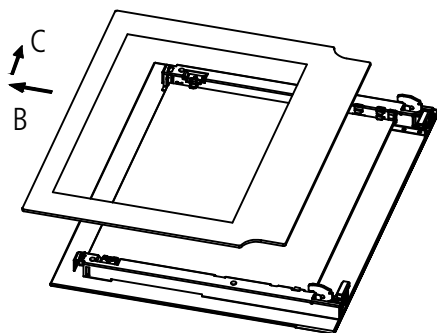

Fig.2
- › Now, shutting the door slightly, you can lift it out by pulling out the hooks "A" as shown in figure 2.
2. Take out inner glass slowly, following the direction of the arrow (B) then (C) (Fig.2)